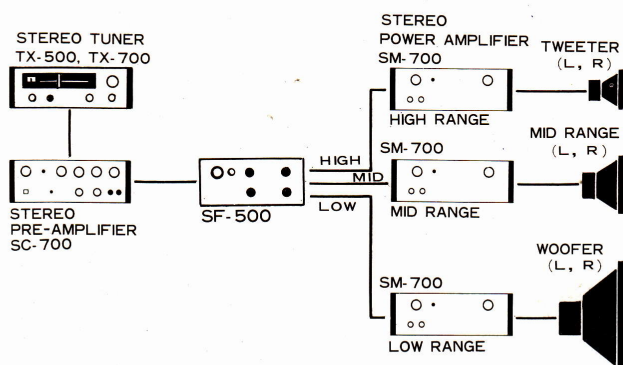

Fig. 1.
2. If you have another manufacturer's pre-amplifier or power amplifiers, construct your system using the models shown in Figs. 1 and 2 above.